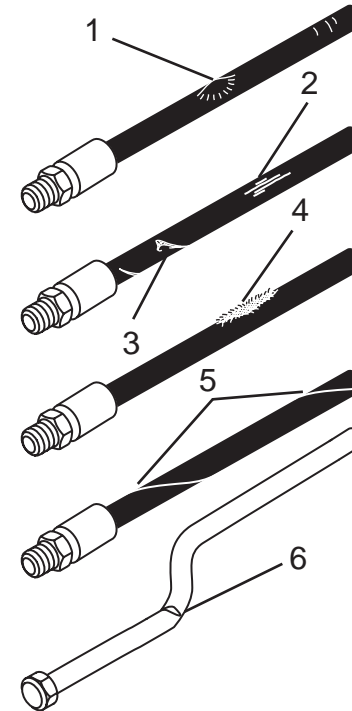

Figure 99
- Bulging (Figure 99, Item 1)
- Cracks (Figure 99, Item 2)
- Cuts (Figure 99, Item 3)
- Abrasion (Figure 99, Item 4)
- Twisting (Figure 99, Item 5)
- Crimped (Figure 99, Item 6)